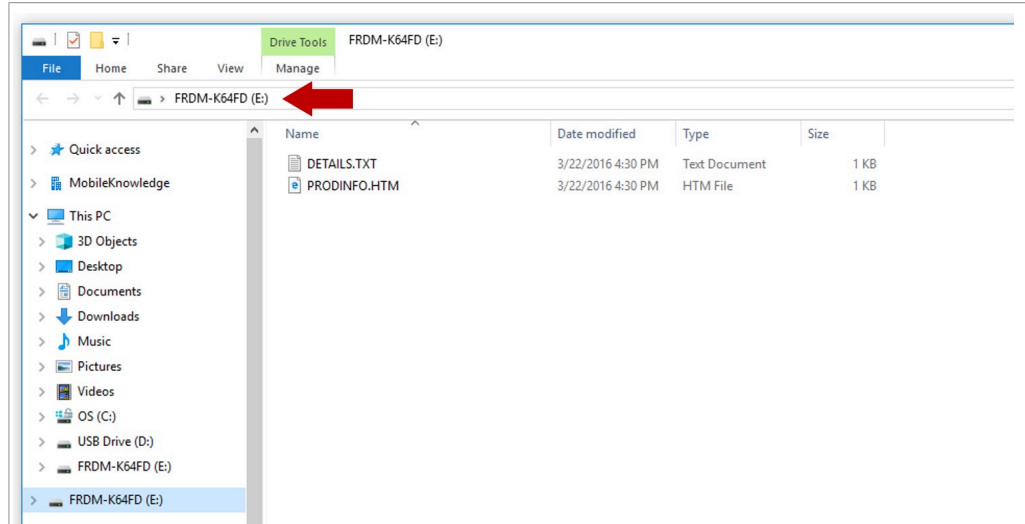

Figure 38. FRDM-K64F drive
- 2. When you plug the board, your laptop should recognize the board as an external drive as shown in Figure 38: